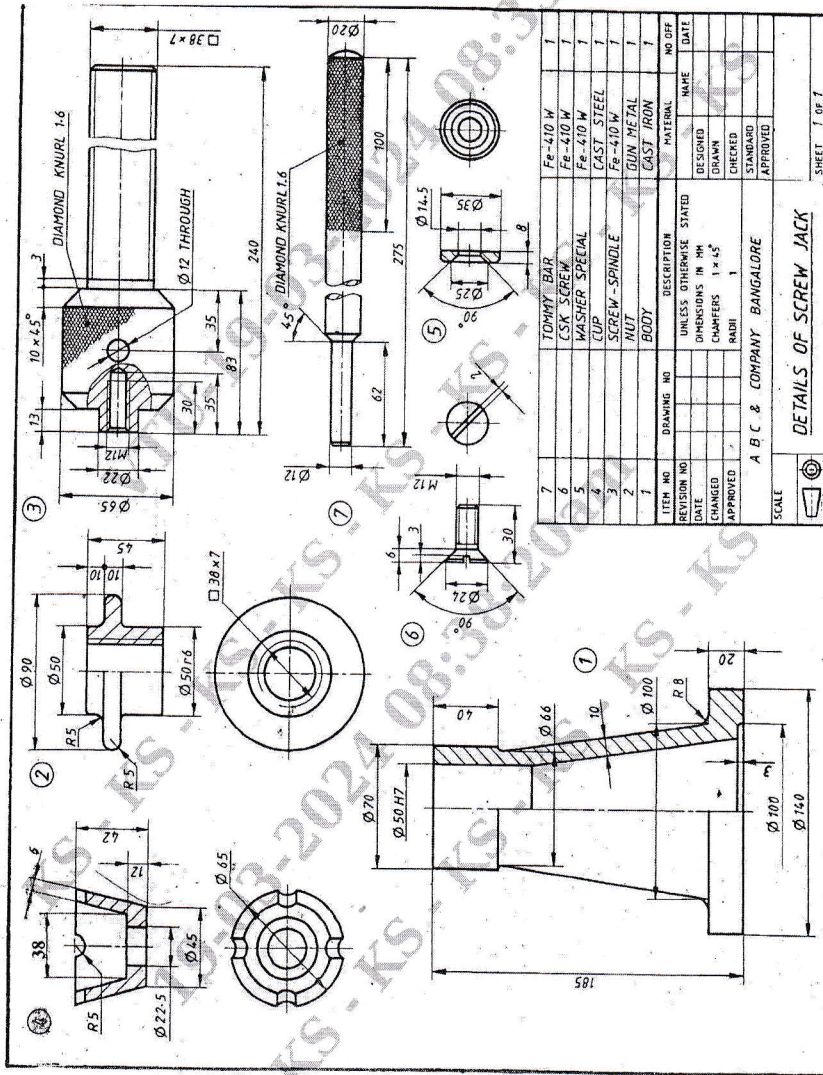

Figure 3: Details of Screw Jack
3. Figure 3 shows the details of a "Screw Jack". Assemble the parts show the following views.